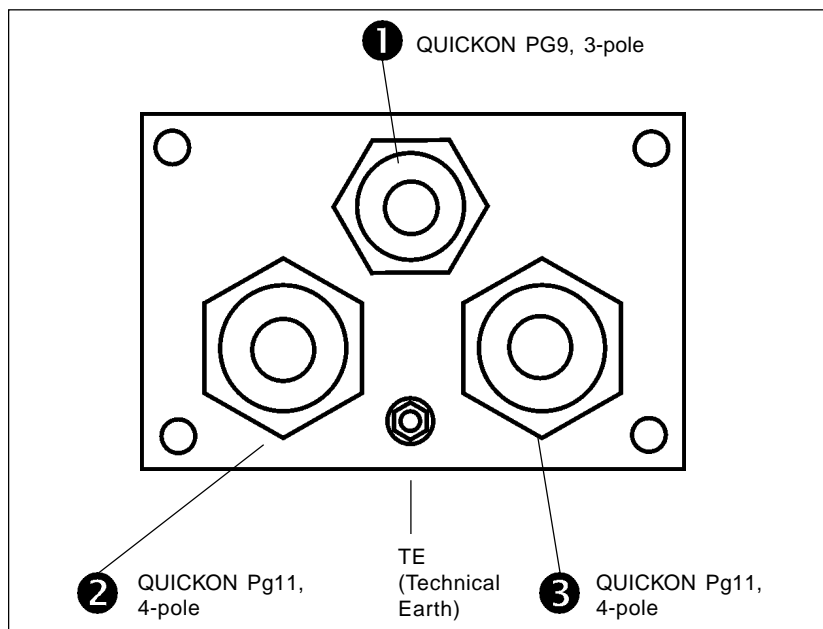

Fig. 5.4: QUICKON connectors on TopControl
- ➔ Mount each inductive proximity switch at the top over the fixing screws. (Fig. 5.4):